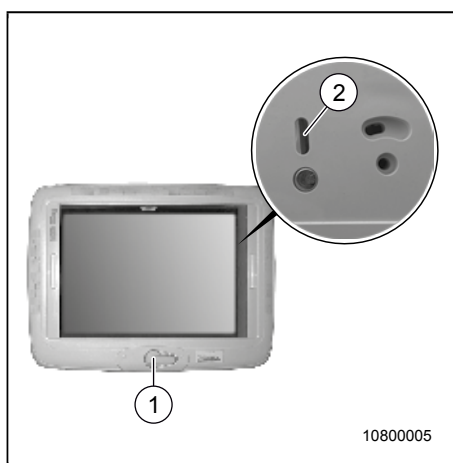

Fig. 13 Lift-tilt roof with hand crank
1. Fold the hand crank (Fig. 13, Pos. 1) out of the recess.
2. Turn the hand crank (Fig. 13, Pos. 1) in the direction indicated on the hand crank handle thus moving the lift-tilt roof into the desired position.
3. Fold the hand crank (Fig. 13, Pos. 1) back into the recess.
2. Turn the hand crank (Fig. 13, Pos. 1) in the direction indicated on the hand crank handle until the lift-tilt roof is closed.
3. In order to lock the lift-tilt roof completely, keep turning the hand crank (Fig. 13, Pos. 1) until the red line in the control opening (Fig. 13, Pos. 2) can be seen.
5. Fold the hand crank (Fig. 13, Pos. 1) back into the recess.